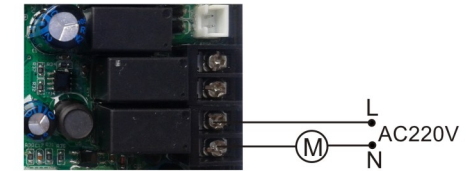

Figure 8
E. Working electricity less than 5A water pump wiring as figure 8 shows: